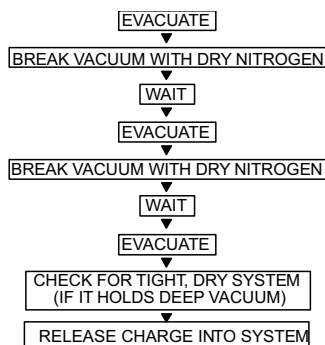

Fig. 42 —Triple Evacuation Method
The triple evacuation method should be used when vacuum pump is not capable of pumping down to 500 microns and system does not contain any liquid water. Refer to Fig. 42 and proceed as follows:
5. Repeat this procedure as indicated in Fig. 42. The system should now be free of any contaminants and water vapor.